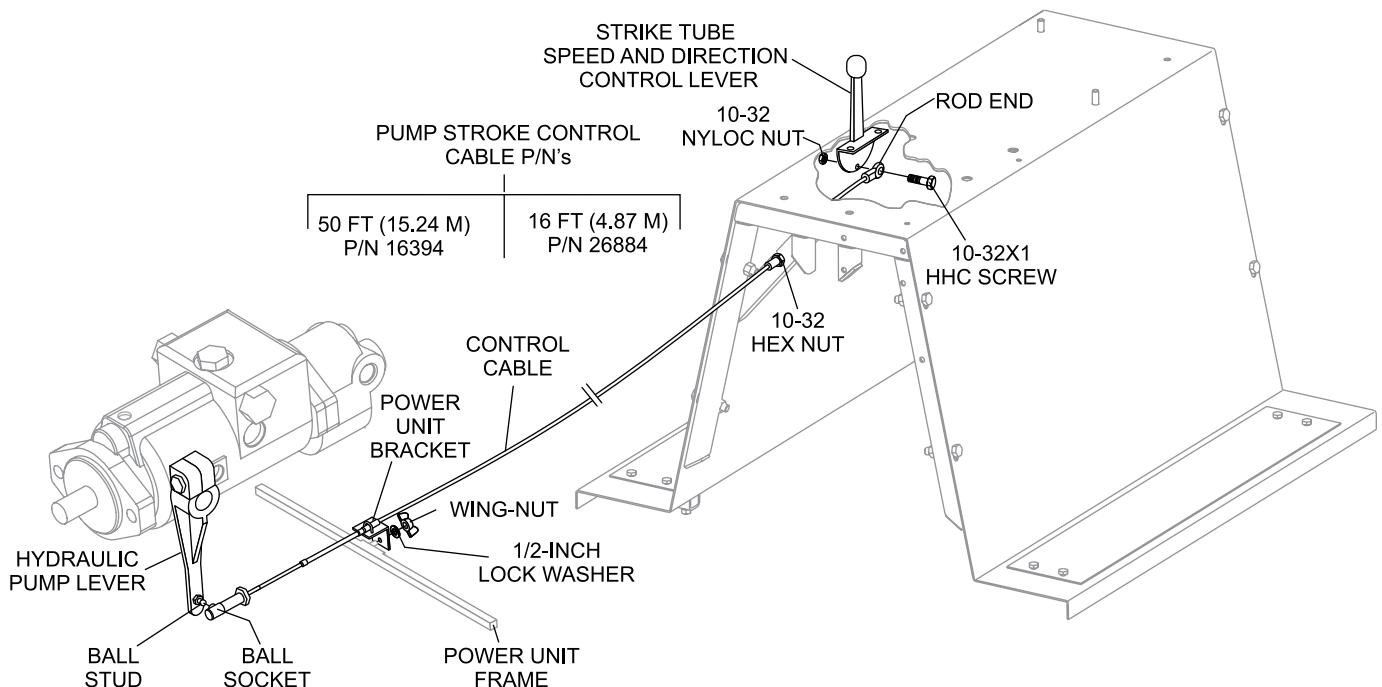

Figure 30. Strike Tube Control Cable Installation
The control cable (Figure 30) should already be connected to the strike tube speed and direction control lever which can be located at the operator's platform.
1. Locate cable mount bracket as referenced in Figure 30.